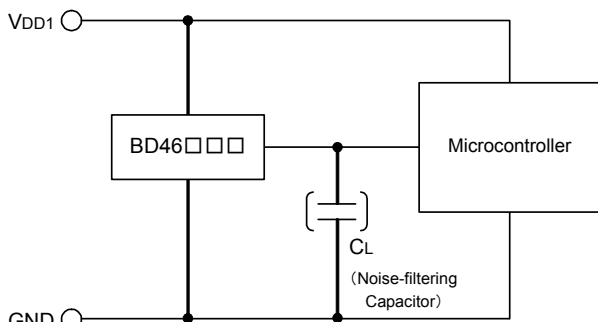

Fig.19 CMOS Output Type
CASE2: the power supply of the microcontroller (VDD1) is same as the power supply of the reset detection (VDD1). Use CMOS output type (BD46 series) or open drain output type (BD45 series) attached a load resistance (RL) between the output and VDD1. (As shown Figure 19)